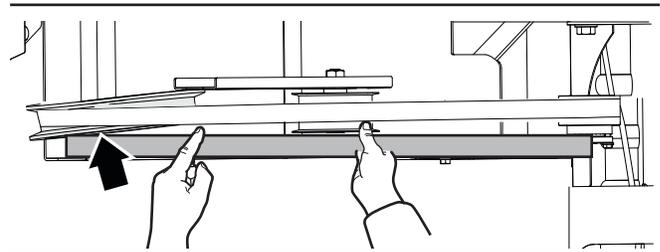

Figure 46—Align the conveyor sheave
- If the edge of the engine clutch flywheel is parallel to the straight-edge tool, but is not aligned with the conveyor sheave, align the conveyor sheave. See *Figure 46 on page 56*.